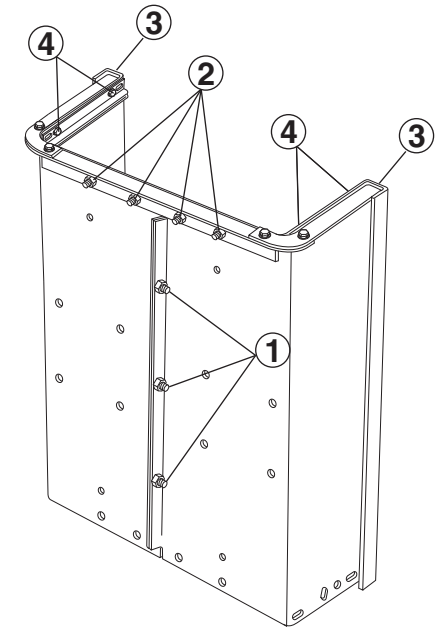

Figure 9
**STEP 9 (SEE FIGURE 9):** Tighten all fasteners from previous steps.